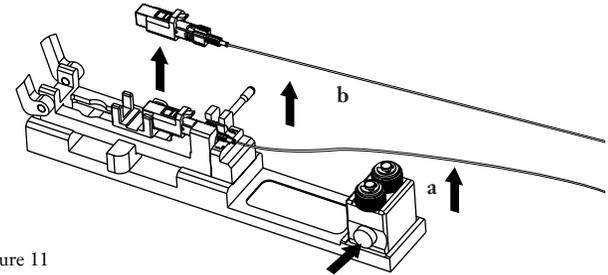

Figure 11
11. With the wrench handle remaining down (Figure 11):